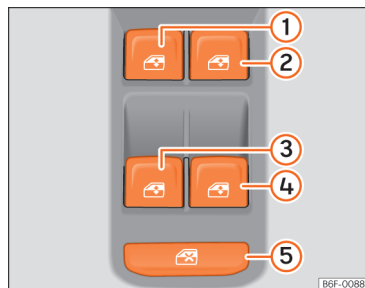

Fig. 80 Detail of the driver door: controls for the windows.
The safety control  Fig. 80 ⑤ on the driver door can be used to disable the electric window buttons on the rear doors.